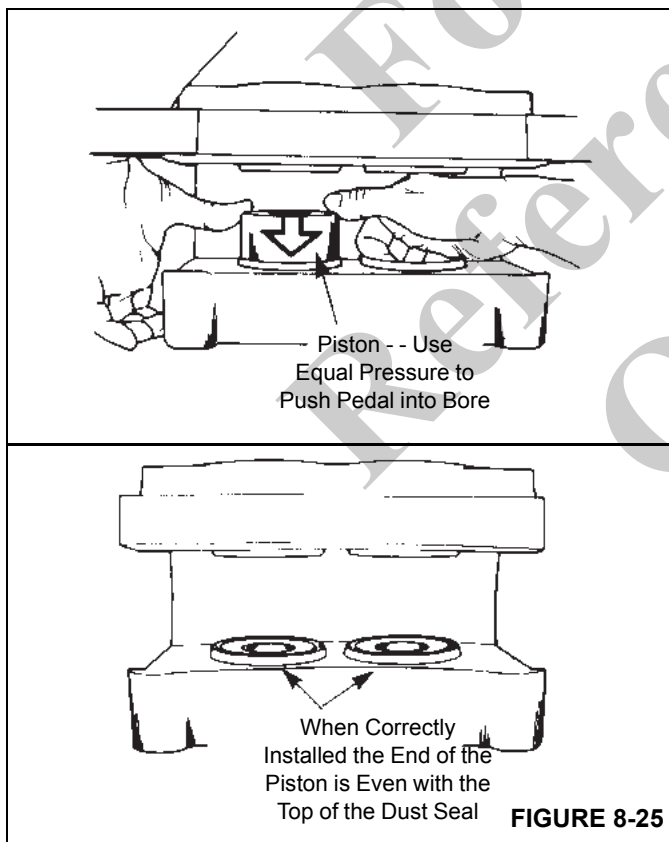

FIGURE 8-25
4. Install the pistons in the housing. Push the pistons in from the lining side of the housing. Ensure the pistons are straight in the bores. Push each piston into the bore until the top of the piston is even with the top of the dust seal (Figure 8-25).